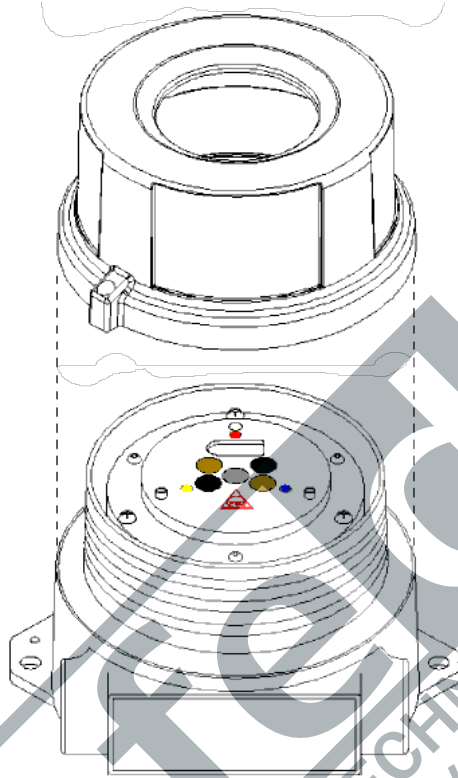

Figure 12. Removing the enclosure lid
2. Unscrew and remove the enclosure lid (Figure 12).